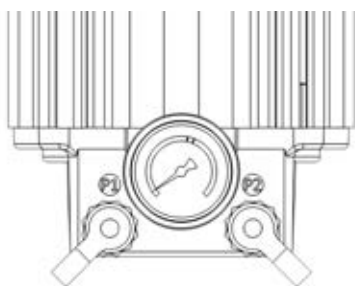

Fig. 5
- ▶ Check that the filter housing is free of pressure (Fig. 5).